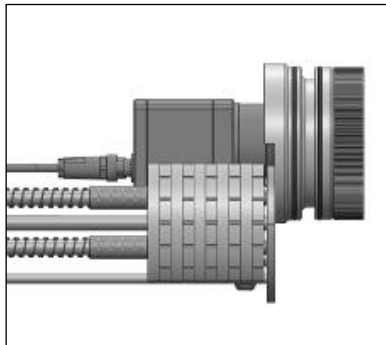
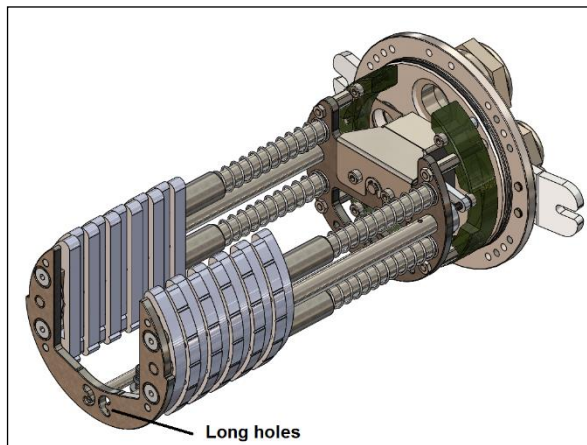
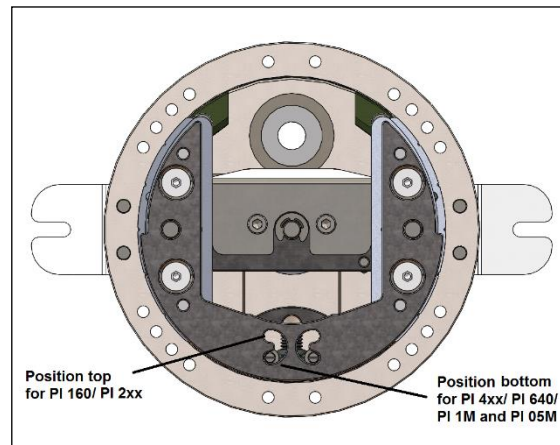
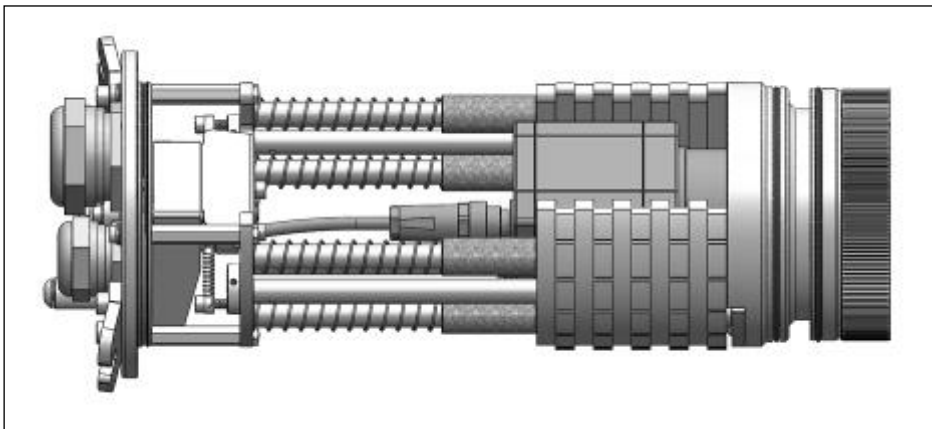

Figure 25: Inserting of the focusing unit
Figure 26: Long holes on the bottom of the chassis
Figure 27: Positioning the two bars in the slot for different cameras
Figure 28: Focusing unit with camera
2. Seat the focusing unit or front part in the chassis (**Figure 25**). Pay attention to the correct positioning of the two bars at the bottom of the chassis. These must be moved in the slot for the respective camera used (**Figure 26, Figure 27**). Position it as shown in **Figure 28**, by pushing it to the bottom.